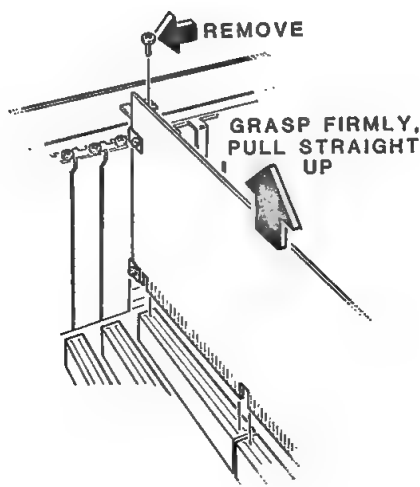

Figure 3-2. Circuit Card Removal
Refer to Figure 3-2 and perform the following procedure:
3. Remove and retain the support bracket screw, as shown in Figure 3-2.